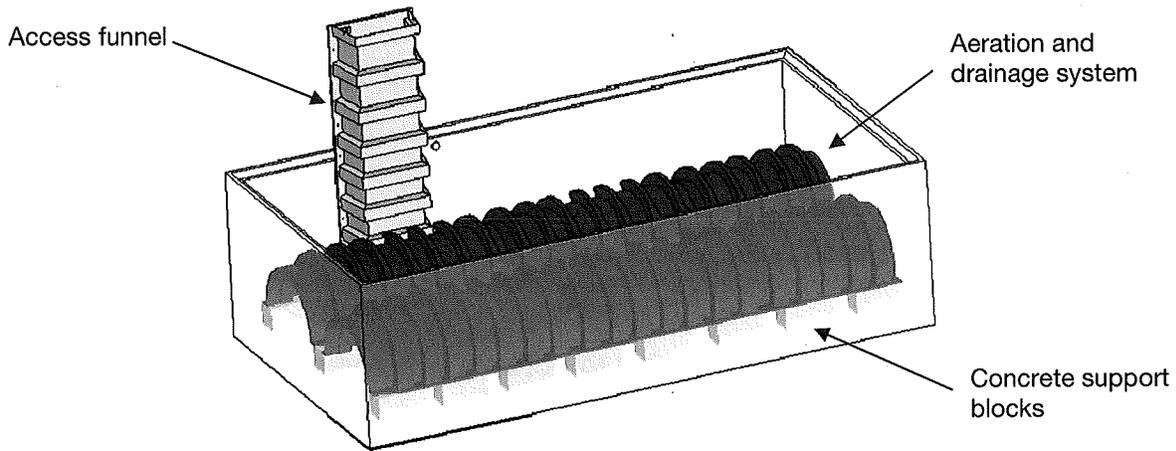

Figure 1
1.1 Verify that you have all the components as indicated in Table 1 and Figure 1.